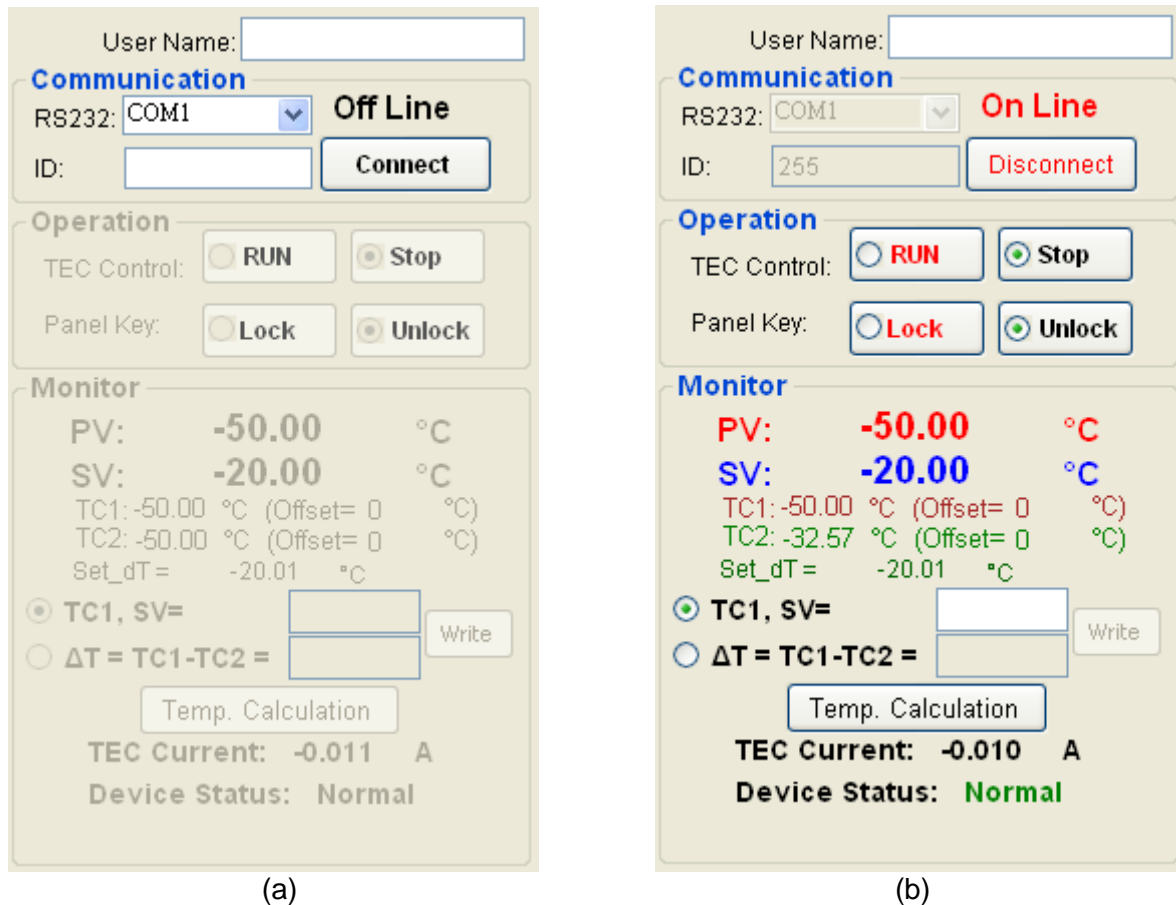

Figure 3-4 Example of (a) before and (b) after Changing SV from 50°C to 30°C
3. Monitor: This shows the Present Value (PV) of target temperature, Setting Value (SV) of target temperature, temperature of thermal couple 1 (TC1), and temperature of thermal couple 2 (TC2). Under the temperature display is an input box for SV. To set the temperature, it just needs to key in a number in the box, and then clicks **Write** as shown in Figure 3-4.